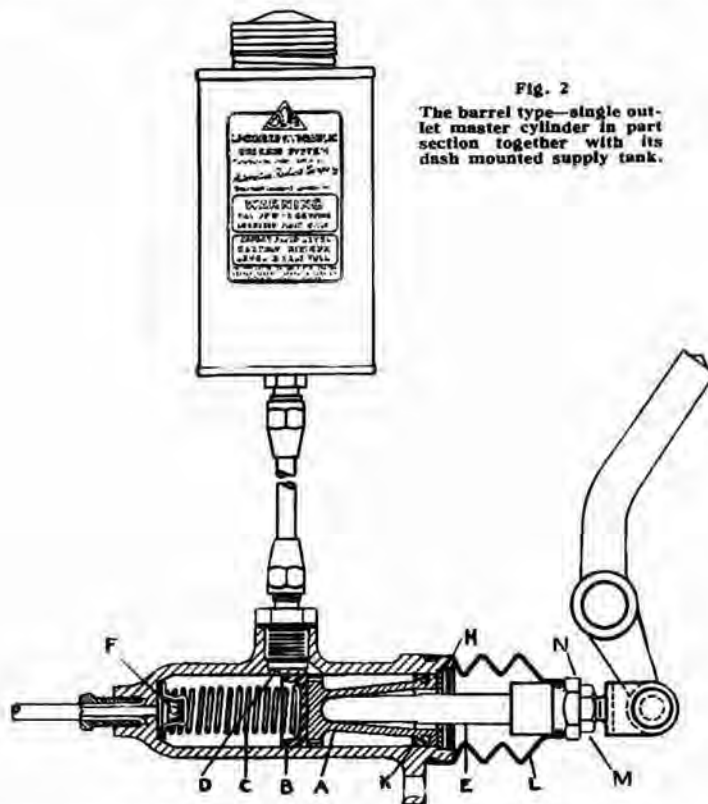

Fig. 2
Within the master cylinder (Fig. 2) is a piston (A) and a cupped washer (B), normally held in the "off" position by a coiled spring (C). Immediately in front of the cup washer, when the piston is in the "off" position, is a small port hole (D), connecting the cylinder interior with the hollow boss above it, which is connected by a length of copper tube to the fluid supply tank. Any rise in temperature causing the fluid to expand in the system allows the fluid
It is essential that the cup washer (B) should be clear of the port hole (D). To be absolutely sure of this allow a slight amount of free movement of the brake pedal before the master cylinder piston starts to move. Adjust at lock nut (M) and push rod end (N) (Fig. 2).